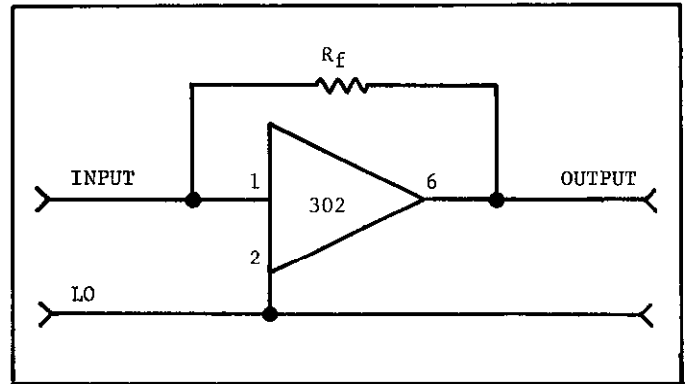

FIGURE 4. Linear Current Amplifier.
a. Linear Current Amplifier. In this configuration, the selected feedback resistor  $R_f$  is connected between the Input (Pin 1) and the Output (Pin 6) as shown in Figure 4. Since the maximum amplifier output is +10 volts (nominally), the full range current is determined by the ratio  $10/R_f$ . Since the offset current for the Model 302 is approximately  $10^{-14}$  ampere, a feedback resistance of  $10^{12}$  ohms is practical.